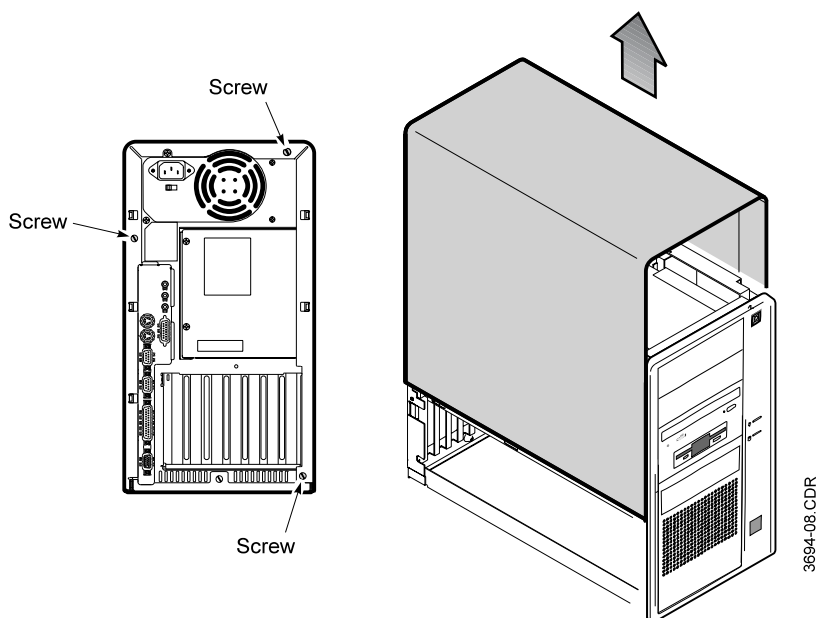

Figure 8. Removing the System Cover
3. Loosen the three thumbscrews on the rear of the system (Figure 8). If the screws are too tight to remove by hand, use a flat-bladed screwdriver to loosen them.